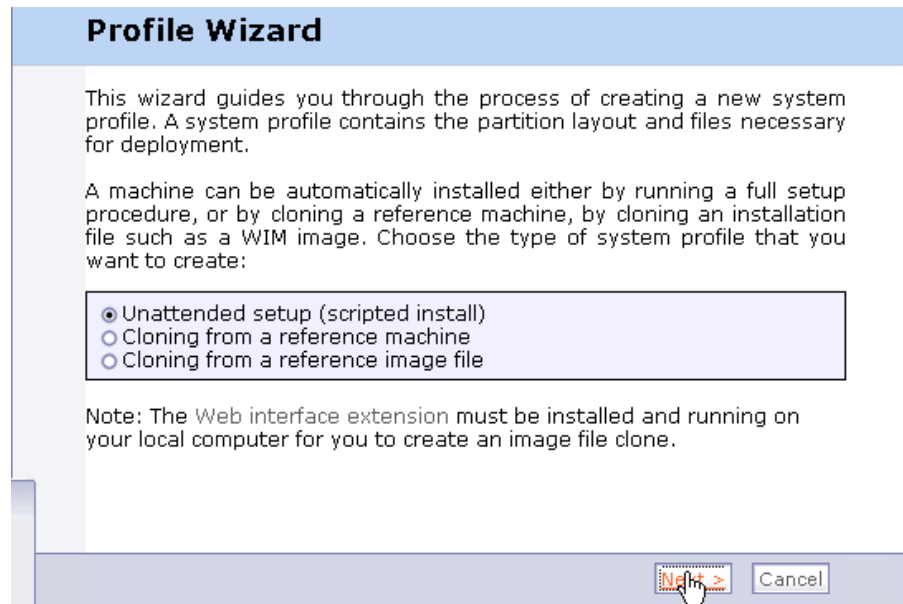

Figure 2-5 Selecting unattended installation
2. In the first profile wizard window, choose the **Unattended setup (scripted install)**, as shown in Figure 2-5 on page 23. This is because we want to install a new operating system using the installation CDs. Since one of the main purposes of Tivoli Provisioning Manager for OS Deployment is to make the installation process simpler and faster, the profile wizard will continue prompting the installation parameters in order to avoid the manual intervention on the client machine after the **deploy now** command is submitted. All the parameters that are needed to install an operation system on a bare metal machine are automatically validated to the process without any user intervention at a later time. Moreover, Tivoli Provisioning Manager